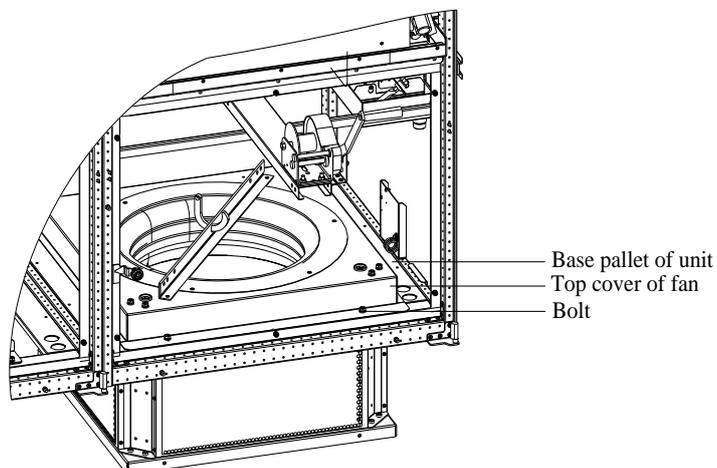

Figure 3-16 Lowered fan
4. Hold the handle of the winch firmly, and then turn the handle counter-clockwise to lower the fan. After the fan is sunk, the status is shown in Figure 3-16;
5. Install the fixing bolts (see Figure 3-16, totally 4 PCS) of the fan.